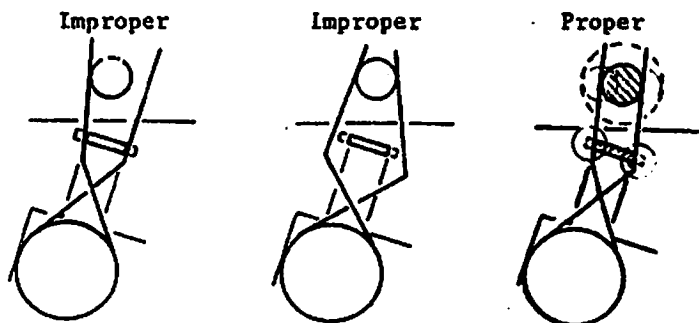

Fig. 140
- \* Take care to keep both ends Spring parallel to each other when bending it as shown in Fig. 140.